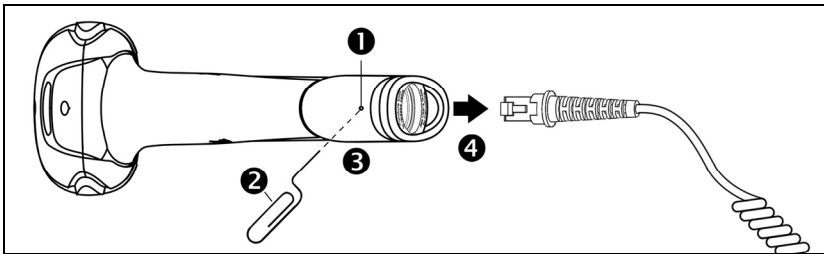

Figure 3. Releasing the Cable
2. Bend an ordinary paperclip into the shape shown above in Figure 3.